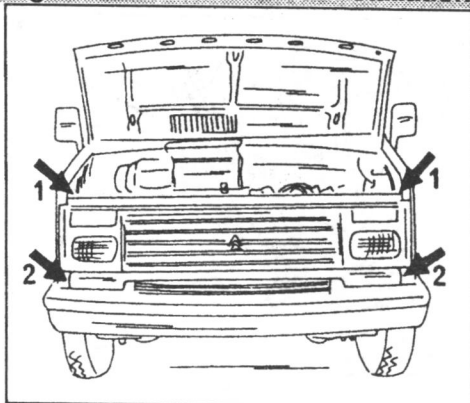

Fig. 1.3. — The radiator grille is secured with two bolts (1) and two nuts (2).
- Remove the radiator grille to gain better access to some of the engine parts (optional). Fig. 1.3 shows where the grille is attached.